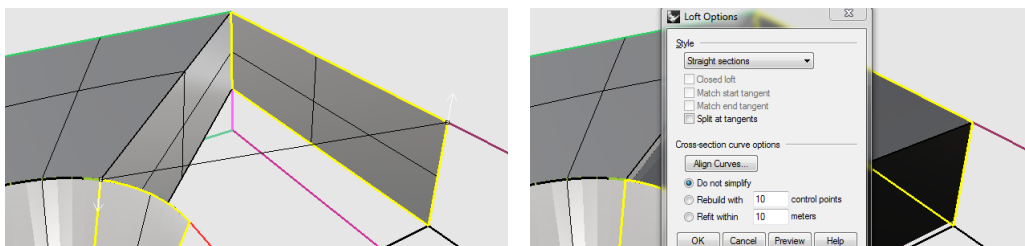

Figure 74: Lofting the two surface borders
6. Again, the guide line in the Loft **preview** indicates that Rhino will connect the **wrong corners** (Figure 74, left). Click on any of the two **white points** at the ends of the guide line connecting the two surfaces, then click on the **appropriate corner** so that the guide line connects the right corners (right).